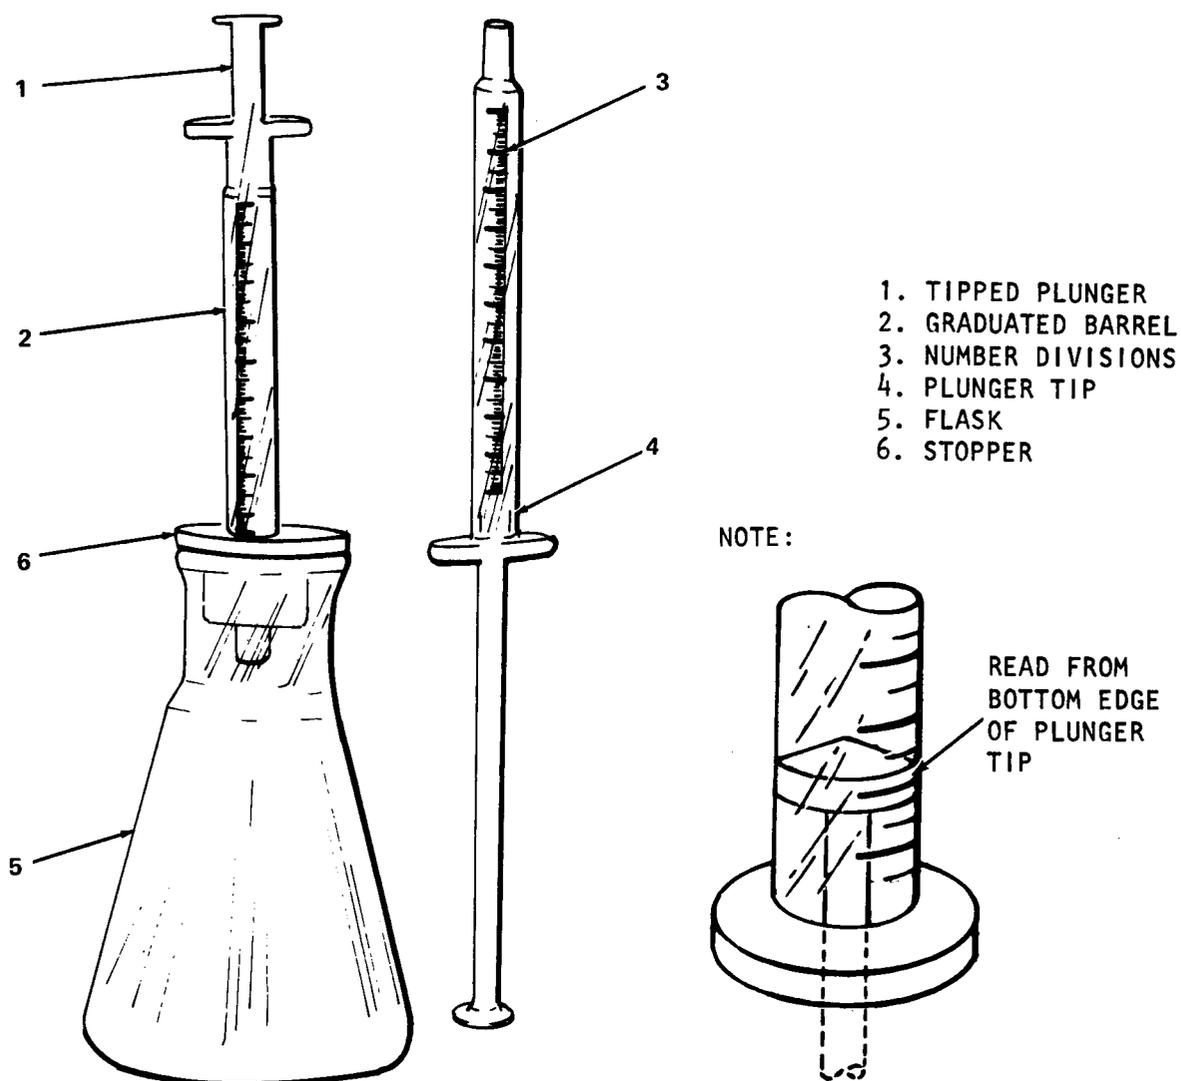

Figure 2-4. Micro Burette - Method of Using with Dispenser Bottles
(3) Should the second analysis not give the correct amount of increase in the iron content, it must be concluded that the first answer may also be incorrect. The analyst must then determine why the technique did not work. By using a logical troubleshooting approach, the source of the problems can be determined whether the fault lies in the reagent, the instrument and apparatus, the test procedure or an interfering substance present in the test sample.
2-11. INSTRUCTIONS FOR USE OF MICRO BURETTE (Fig. 2-4). The micro burette consists of a graduated barrel (2) with a tipped plunger (1) that slides freely back and forth inside the barrel. The standard micro burette has twenty major (numbered) divisions (3) and each major division is divided into five subdivisions. All readings are made where the bottom of the plunger tip (4) intersects the graduated scale. Special dispenser flasks (5) and titration vials are used. These flasks include stoppers (6) into which the tip of the micro burette is inserted. To prevent leaking a tight fit is required, and the first use may require some pressure when inserting the burette tip into the fitting.